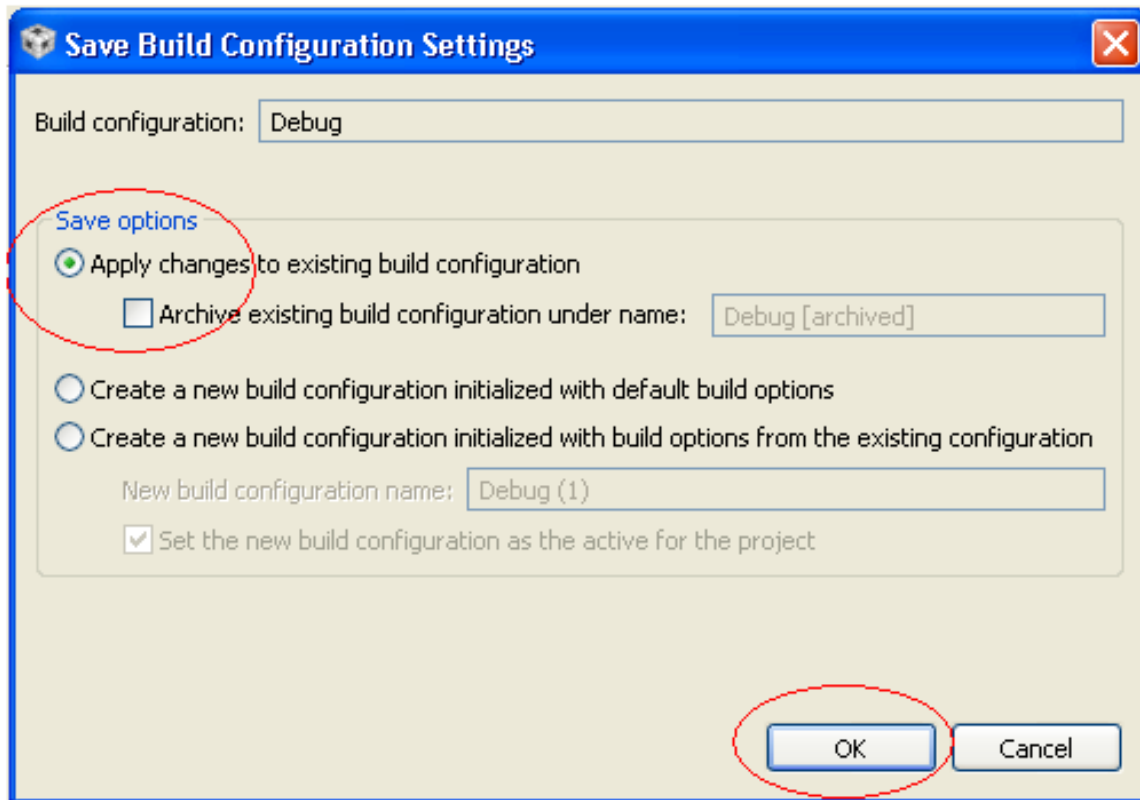

Figure 11. Save Build Configuration Settings
- The Build Configuration Settings window will appear. Select the options as shown in Figure 11 and click on the OK button.